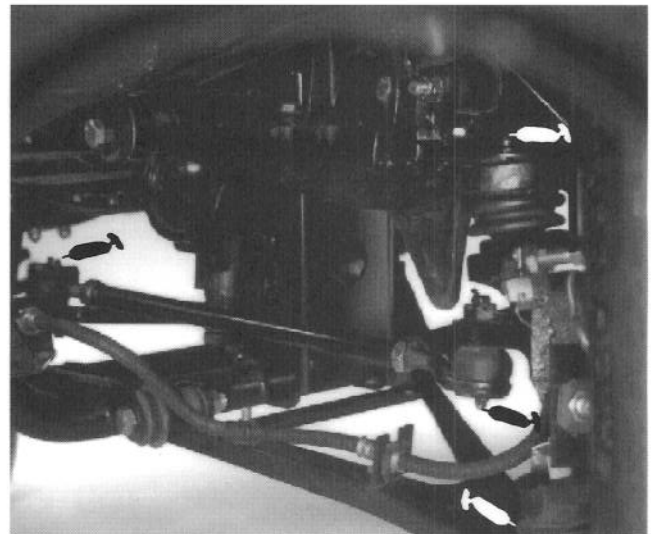
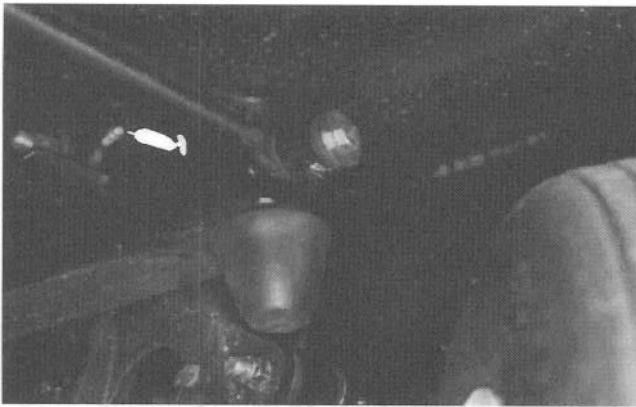

Figure 21
Figure 22
The grease fitting locations and quantities are: Tie rod ends (4) (Fig. 21), Front ball joints (4) (Fig. 21), Rear drive shafts (18) (Fig. 23), Steering shaft (1) (Fig. 24) and Front pivot bushings (2) (Fig. 22).